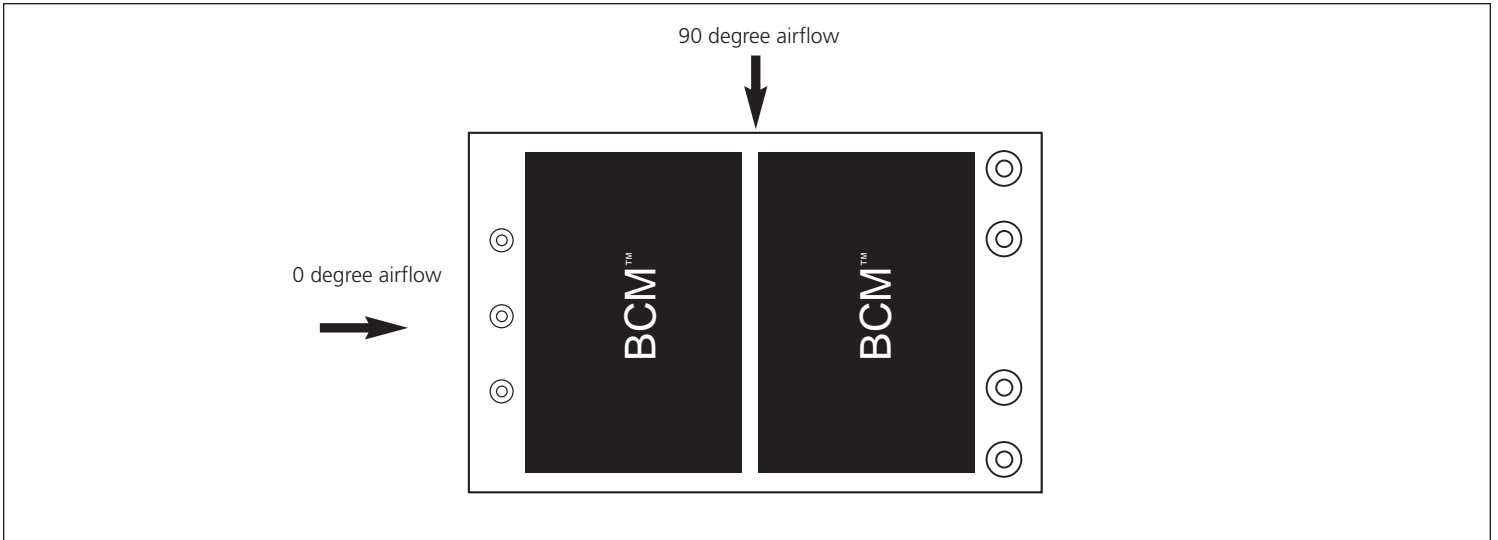

Figure 1— 0 and 90 degree airflow orientations for one or two BCM configurations
3. Determine the airflow orientation from Fig. 1.